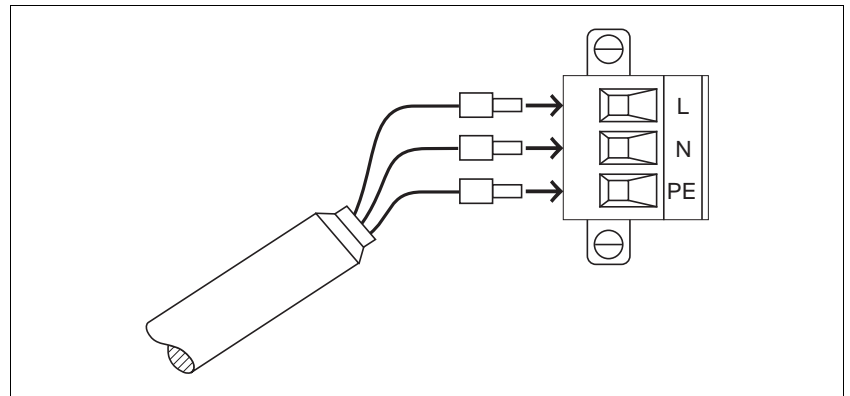

Fig. 2-4 Mains connector – device end
3. Fasten three litz wires (fig. 2-4) with screws: